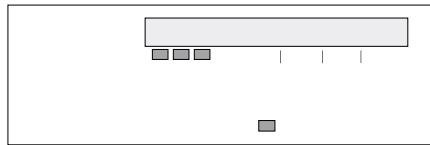

Figure 5-8.1
1. Connect the test cords as shown in **Figure 5-8.1** so that the **935AT** is looking in both directions.